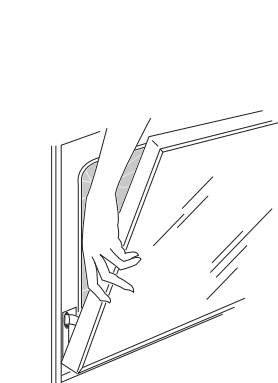

Fig. 3A
1. Open the door to the stop position (see Fig. 3A).